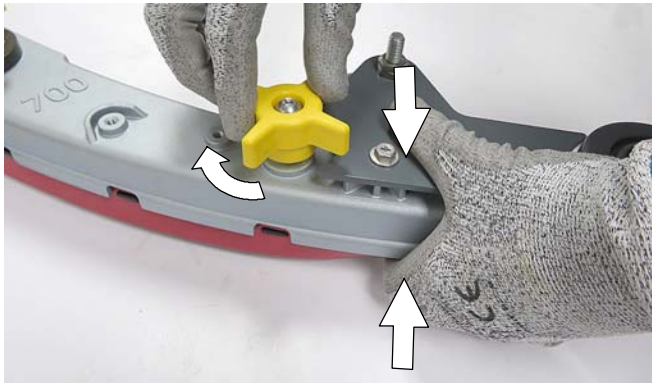

FIG. 140
- Squeeze the squeegee frame and blade retainer together and re-tighten the star knobs (Figure 140).